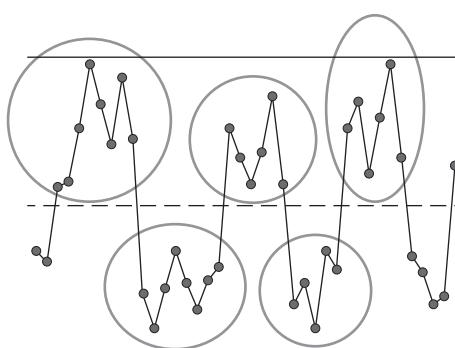

Figure 9.13 Control chart showing cyclical variation.
- *Cycle.* Chart shows higher and lower groups of values over equal periods of time (Figure 9.13). Find out what the clusters above and below the center line have in common.